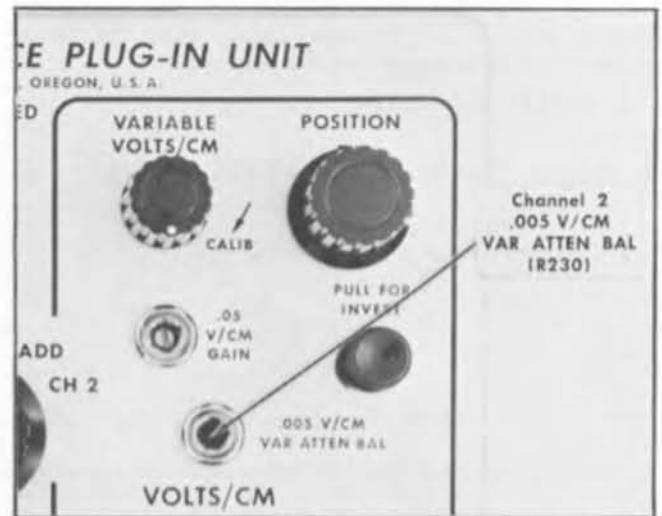

Fig. 7-5. Step 3 adjustment location.
- c. CHECK—That a free-running trace is present near the center of the screen. The trace does not shift as the Channel 2 VARIABLE VOLTS/CM control is rotated back and forth. If the trace is not present and/or trace-shift occurs, adjust the Channel 2 .005 V/CM VAR ATTEN BAL control (see Fig. 7-5) to vertically position the trace onto the screen.